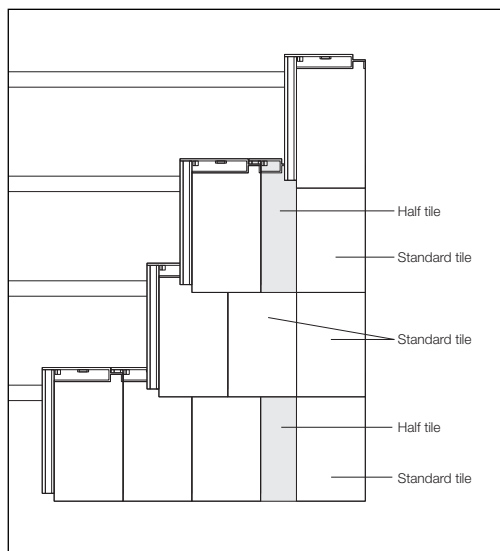
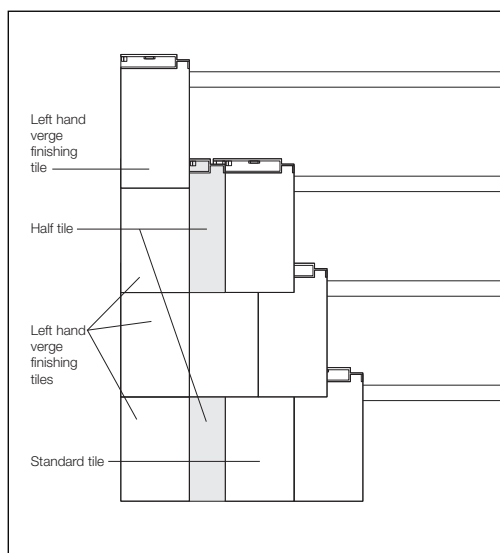

Fig 52 – Right hand verge achieving broken bond using half tile and standard tiles (clips omitted for clarity)
Fig 53 – Left hand verge achieving broken bond using left hand verge finishing tiles and half tiles (clips omitted for clarity)
- 3 Perpendicular alignment should be checked by setting out the roof along the eaves starting with the correct overhang at the right hand verge (Fig 52). The left-hand verge can be achieved using special Domino LH Verge finishing tiles (max. verge overhang 50mm) (Fig 53).